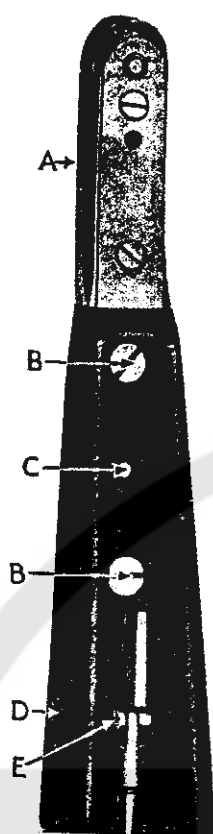

Fig. 21.
Remove the machine head from the treadle stand or power bench by taking out the four screws. The machine head should now be tipped up and supported with the horn in a vertical position, the underside facing the adjuster. Parts can be examined or removed from the rack box by taking out the two screws (F) and removing the cover plate. The following parts are then exposed : long rack (J), short rack (K), intermediate pinion (L), shuttle driving pinion (H), needle plate locating pin and spring (M), all of which can be removed without disconnecting the rack box from the machine. To take out the shuttle carrier, remove the small set screw in the shuttle carrier pinion by inserting a small screw driver through the groove (G) at the side of the rack box. The shuttle carrier can then be pressed through the pinion. To remove the long rack, insert a screw driver through the hole (D, Fig. 21) and take out the screw. Before proceeding to withdraw the rack, remove the pinion (L), then grip the rack and draw it in a straight-away manner towards the pulley end of the machine. The short rack (K) and shuttle driving pinion (H) can be removed without difficulty. When replacing any one or re-assembling the whole of these parts, care must be taken to see that the gears and racks are correctly enmeshed, as shown in the illustration (Fig. 20).
Instructions for the Removal of the Rack Box (See Fig. 21)